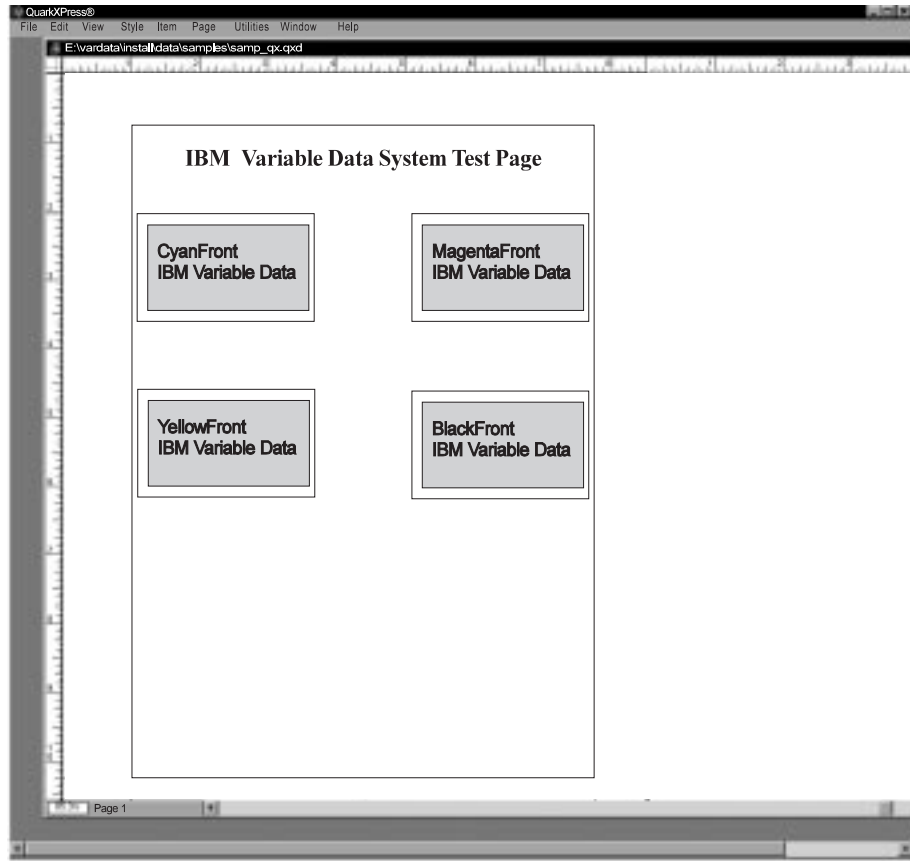

Figure 97. Final Sample QuarkXPress (Release 3.32) Document with Variable Data
**Note:** In your document, the variable data box will be grey and labelled with the name, as shown in Figure 97 on page 122.